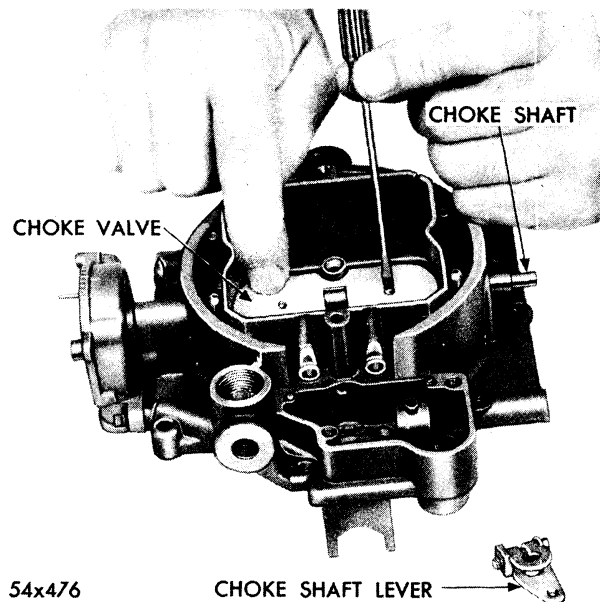

Fig. 18—Removing or Installing Choke Valve Retaining Screw
(5) Remove the two choke valve retaining screws that hold the choke valve to the choke shaft, as shown in Figure 18. Lift out the choke valve.